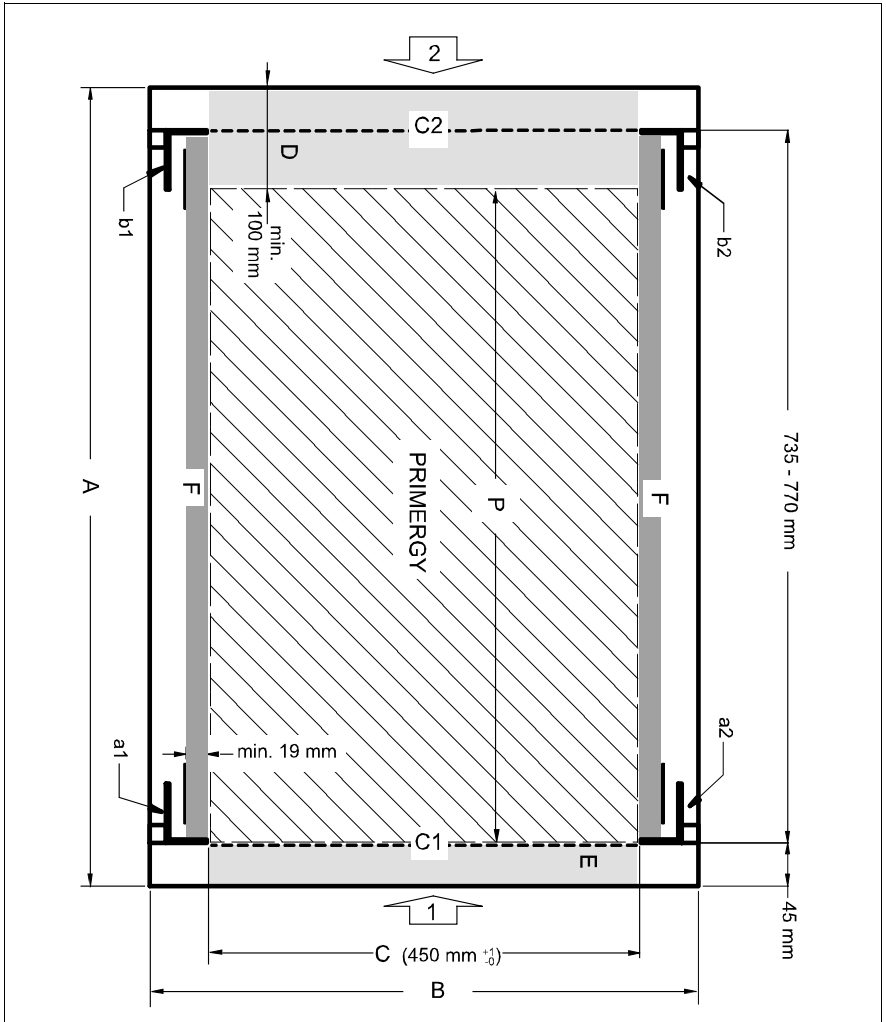

Figure 2: Mechanical requirements
– Installation dimensions (see the dimensions shown in figure 2 on page 41):